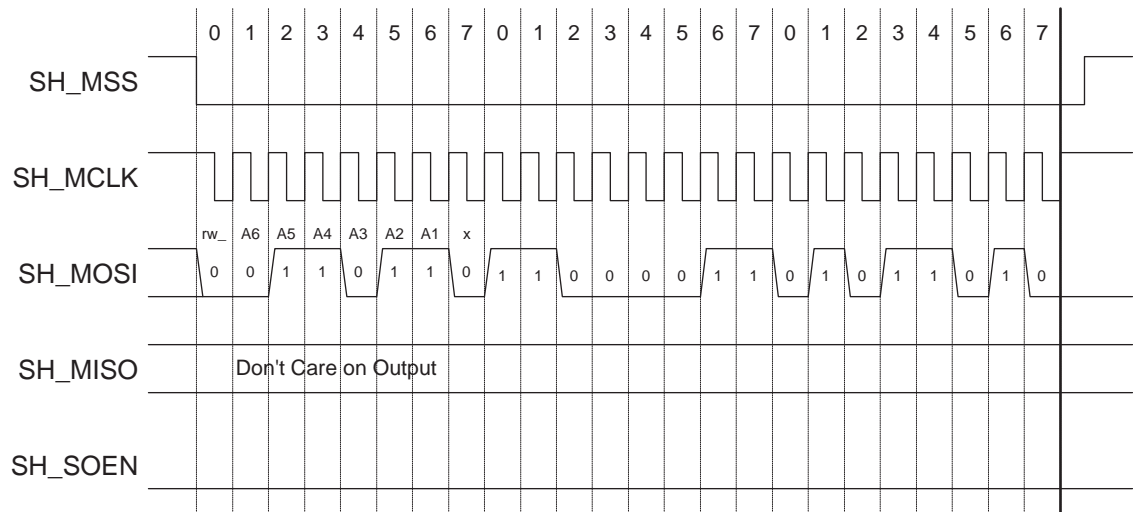
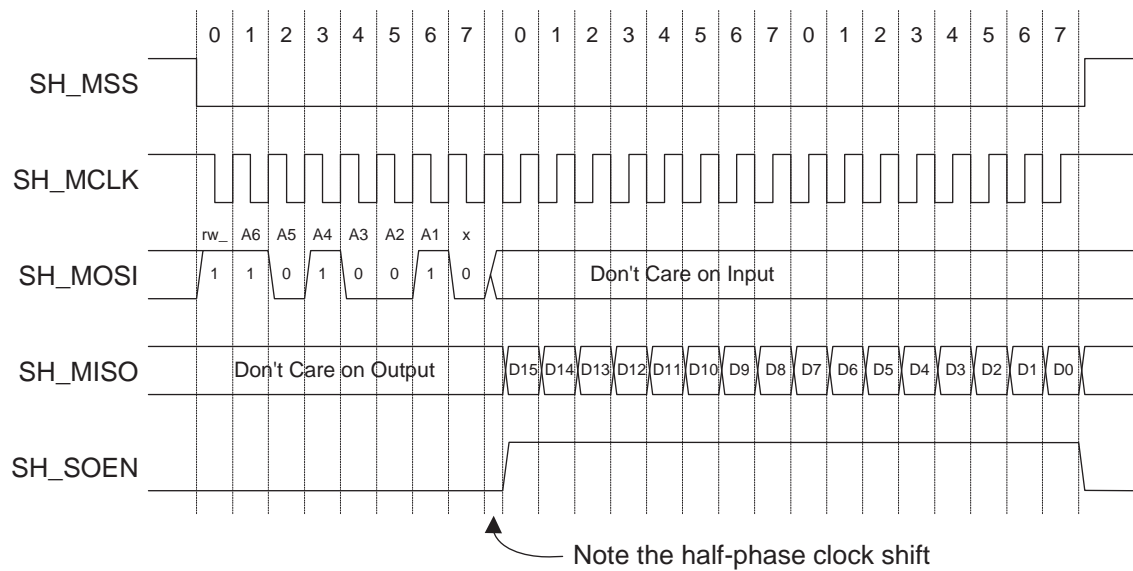

Figure 5-15 Serial Host Write Timing
Figure 5-16 Serial Host Read Timing
Figure 5-15 shows the functional timing for a Serial Host Write operation, and Figure 5-16 shows the functional timing for a Serial Host Read operation.
- Both read and write operations consist of 24 bits or clocks. The first eight bits are control or transfer direction information and the register address. The following 16 bits or clocks shift in two bytes for a write operation (Figure 5-15) or shift out two bytes for a read operation (Figure 5-16).
- Before starting a serial operation, set the SH_MSS pin low (0). Leave the SH_MSS pin set to low until the read or write operation is complete, then set the SH_MSS pin high.